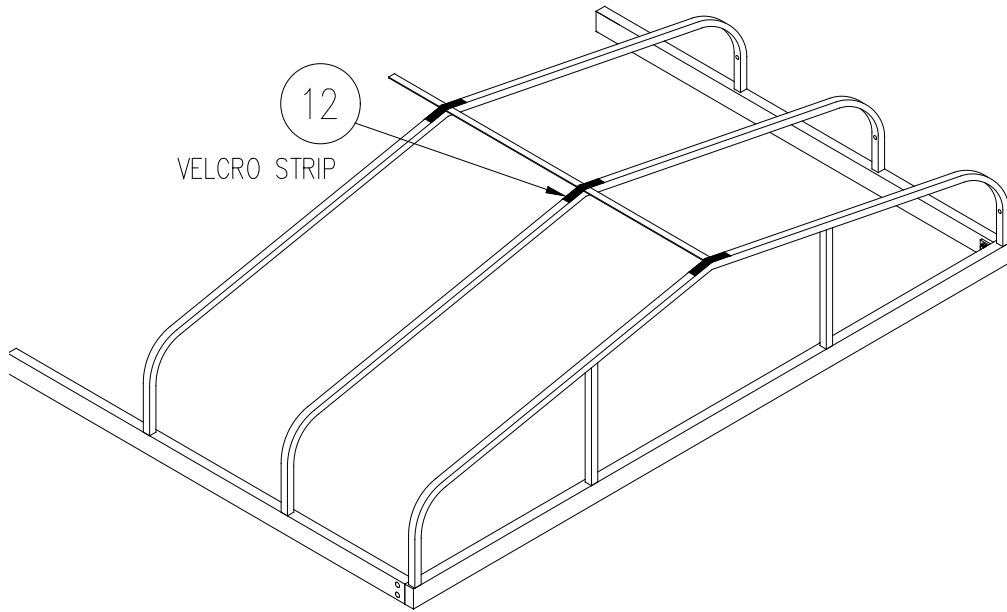

Figure 2-7
12. Refer to **Figure 2-7**. Clean the top of the canopy ribs and carriage bolt head (about 2 inches longer than Velcro cut length each side of bolt) with cloth dampened in rubbing alcohol. Allow to dry.